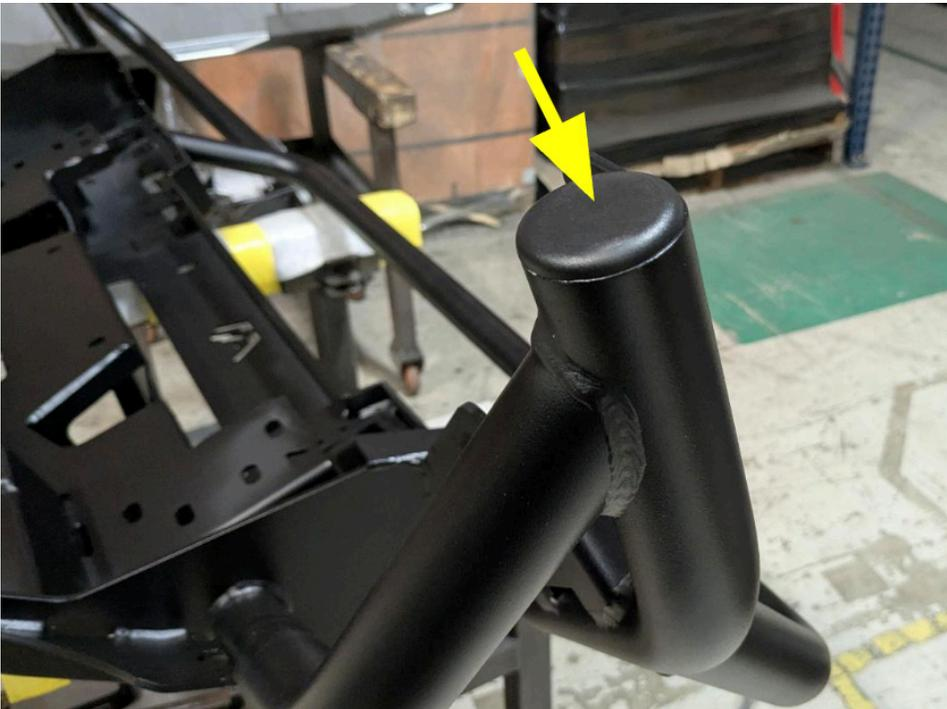

Figure 49
35. Install the two (2) plastic tube plugs provided in the hardware kit into the open ends of the wing tubes using a rubber mallet. (Figure 49)